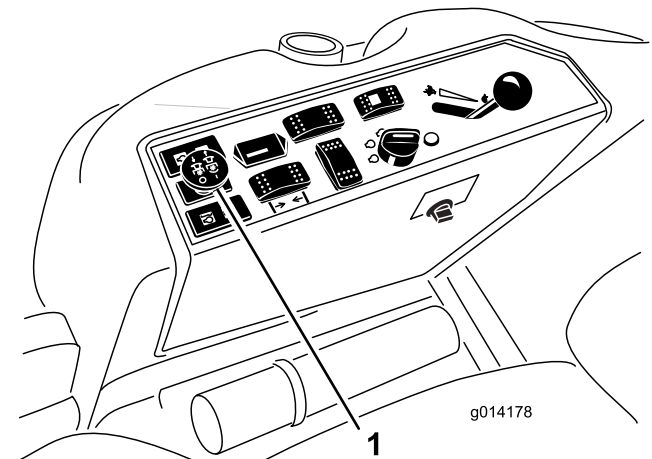

Figure 17
3. Pull up on the PTO switch to engage it (Figure 17).